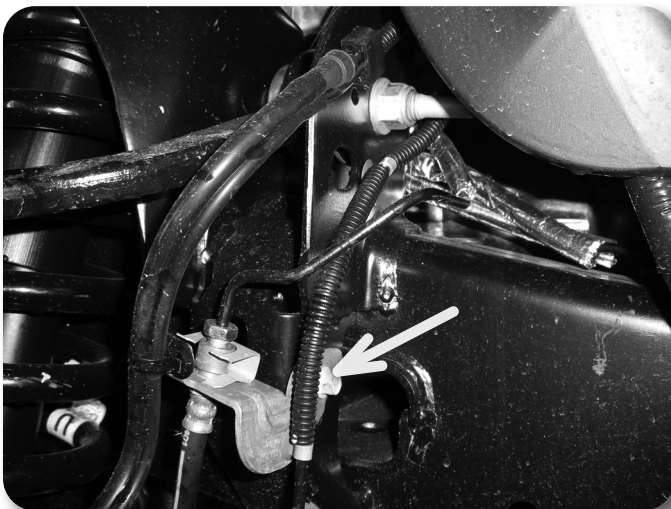

Figure 2A
7. Disconnect the ABS and hub vacuum lines from the retaining clips. Disconnect the brakeline bracket from the frame rail. Disconnect the ABS line from the inner fender well, and disconnect the clip **Figure 2A/B**.